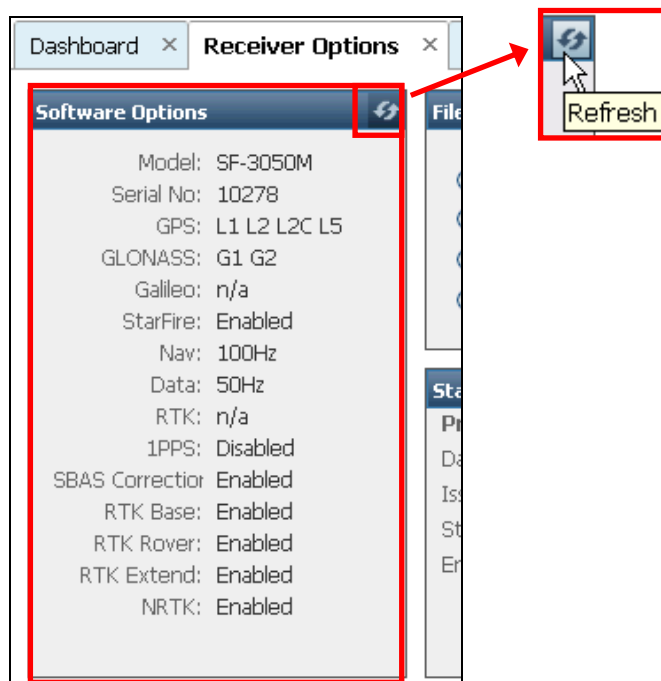

Figure 87: *Software Options* Window
8. Click  (refresh) on the *Software Options* window (see Figure 87) to display the uploaded software options.
6. To view all currently loaded software options, click  (refresh) on the *Software Options* window (see Figure 87).
- *RTK Extend Software Option*: A valid RTK Extend Software Option must be installed in the rover (see Figure 87)